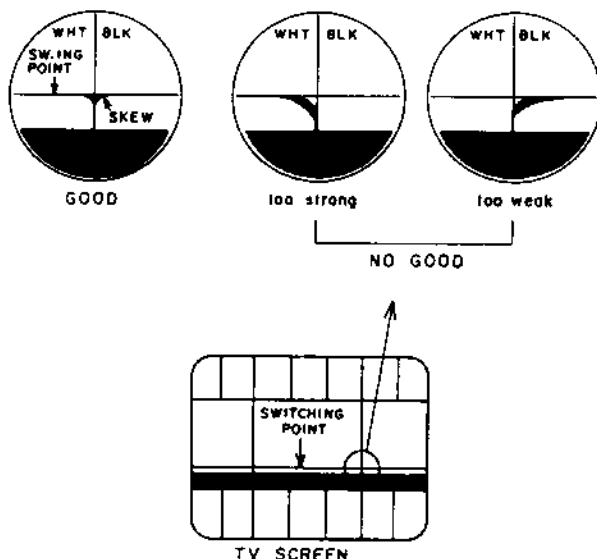

Fig. 5-1
- 2) Observe the TV screen and adjust the V-HOLD for TV so that the switching point appears on the TV screen in Fig. 5-1.